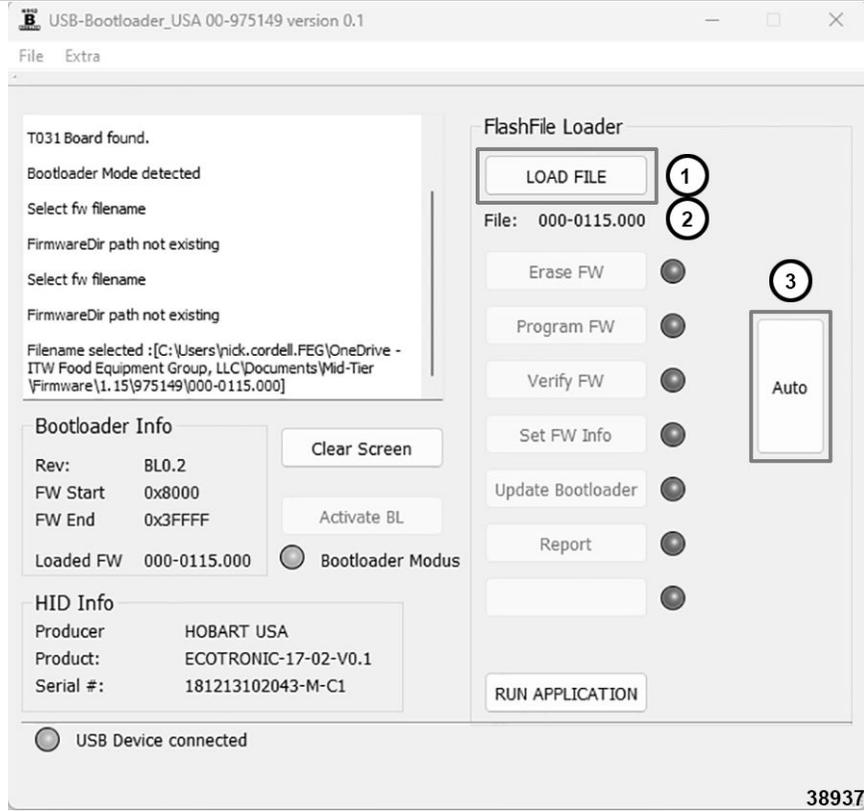

Fig. 89
6. Select "LOAD FILE" (1, Fig. 89).
NOTE: Once firmware is loaded, current firmware version (2, Fig. 89) will be displayed by File.
8. Select "AUTO" (3, Fig. 89).